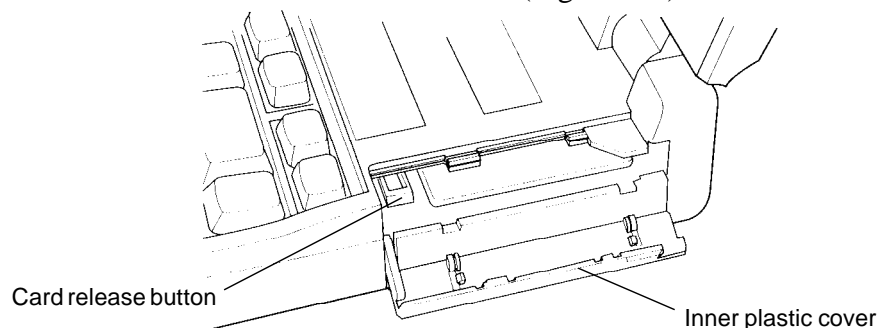

Figure 4-6 Removing the PCMCIA Card from Slot 2
5. To remove a card from slot 2 (T4600/C only), unlatch the top half of the **inner plastic cover** and swivel it downward to expose the slot, PCMCIA card, and **card release button**. Press the button to release the card from its slot (Figure 4-6).
4. To install a PCMCIA card into slot 2 (T4600/C only), unlatch the top half of the inner plastic cover and swivel it downward. Insert the card making sure the card is right side up and the contact surface is inserted first. *Gently* push the card until it firmly connects (Figure 4-6).